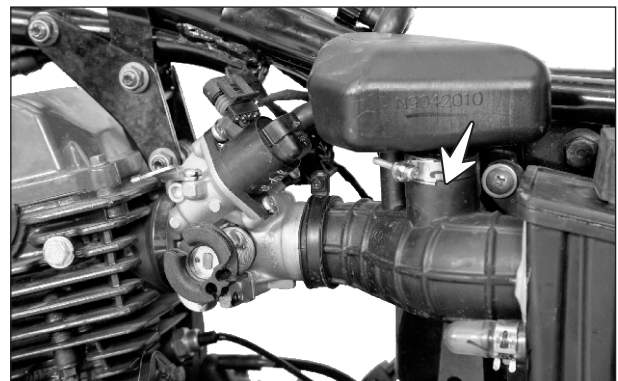

Fig. 2.67
- Visually inspect the pipe intake complete and air cleaner tube outlet for any crack, leakage, damage or deformation. (Fig. 2.67)